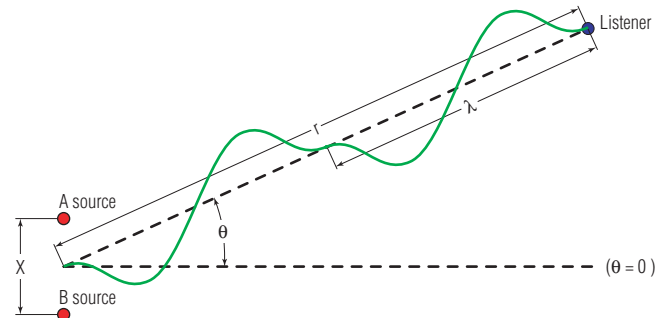
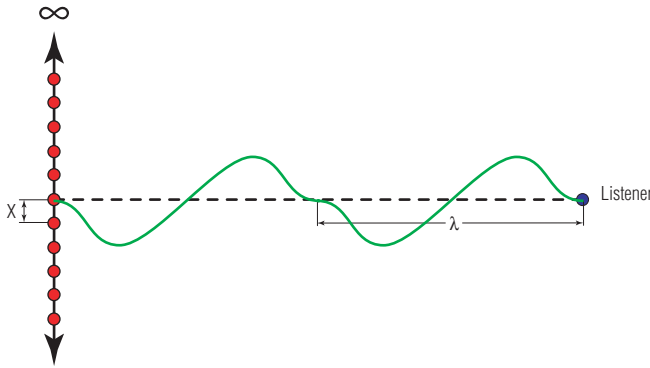

Figure 3-1 If $X \ll \lambda$, then sources A and B generate twice the sound pressure with single-point directivity.
Figure 3-2 Ideal line source: X is always much, much less than λ .
X from the first source, where X is much, much less than the radiated wavelength, or lambda (λ). If $X \ll \lambda$, then the two point sources **A** and **B** generate double the sound pressure of a single point source, while still maintaining the directivity of a single point source. Figure 3-1 illustrates such a configuration.
If, as Figure 3-1 suggests, the two sources are separated by X and the listener is a distance r away from them, the sources add to produce—depending upon the listener's angle (θ) off the 0-degree axis and the sound wavelengths—a new sound pressure. If the wavelength (λ) is long compared to the spacing (X) of the sources, the pressure doubles as expected. As the wavelengths decrease and the frequency increases, the sound pressure will increase on axis, but the off-axis response becomes a series of pressure peaks and dips. Their amplitude and angular location are also functions of the comparative sizes of X and the wavelengths being produced.
The third logical step in constructing a line array is to add sources to the two shown in Figure 3-1. Although a two-source can be construed as a very basic line array—and it does function as one—a more typical approach is the one in Figure 3-2. Here, many simple sources are introduced, and their spacing is